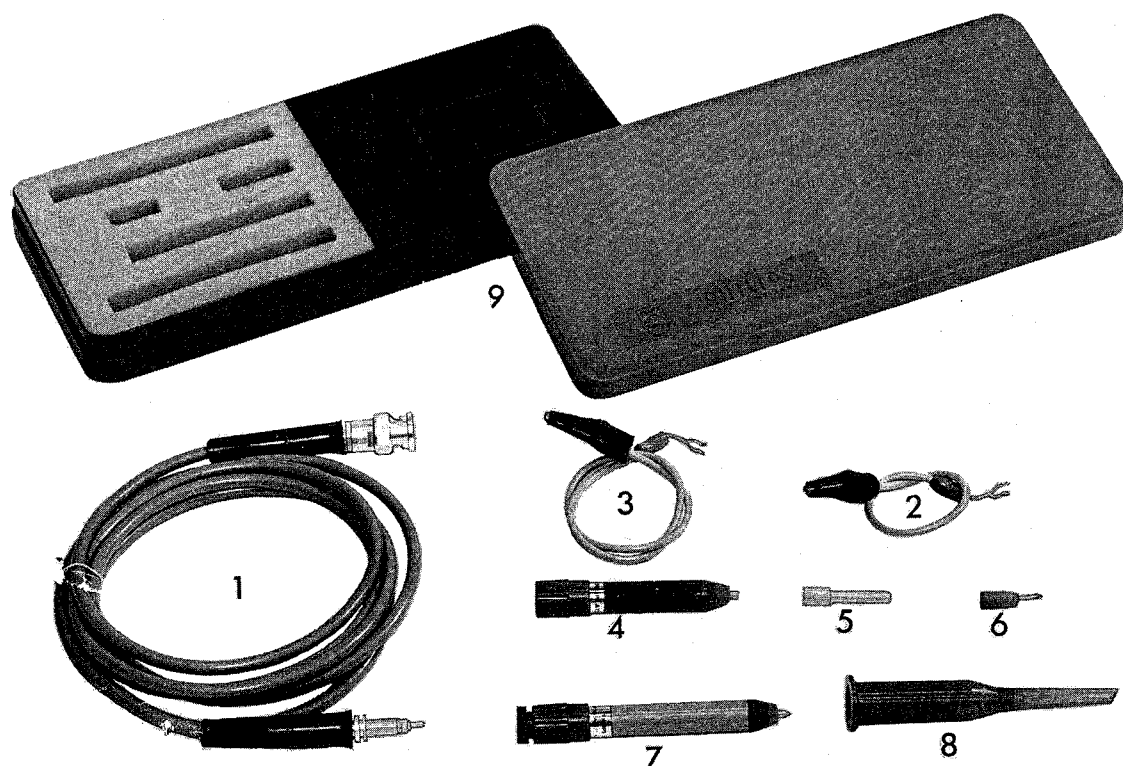

Fig. 3.18. Attenuator probe set PM9326 (PM 9327)
#### 3.5.1. Attenuator probe sets PM 9326 and PM 9327 (Fig. 3.18)
1 probe cable	Fig. 3.18, item 1
1 earth lead 15 cm	Fig. 3.18, item 2
1 earth lead 30 cm	Fig. 3.18, item 3
1 measuring probe 1:1 (black)	Fig. 3.18, item 4
1 test pin	Fig. 3.18, item 5
1 test hook	Fig. 3.18, item 6
1 attenuator probe 1:10 (grey)	Fig. 3.18, item 7
1 test clip	Fig. 3.18, item 8
1 box	Fig. 3.18, item 9